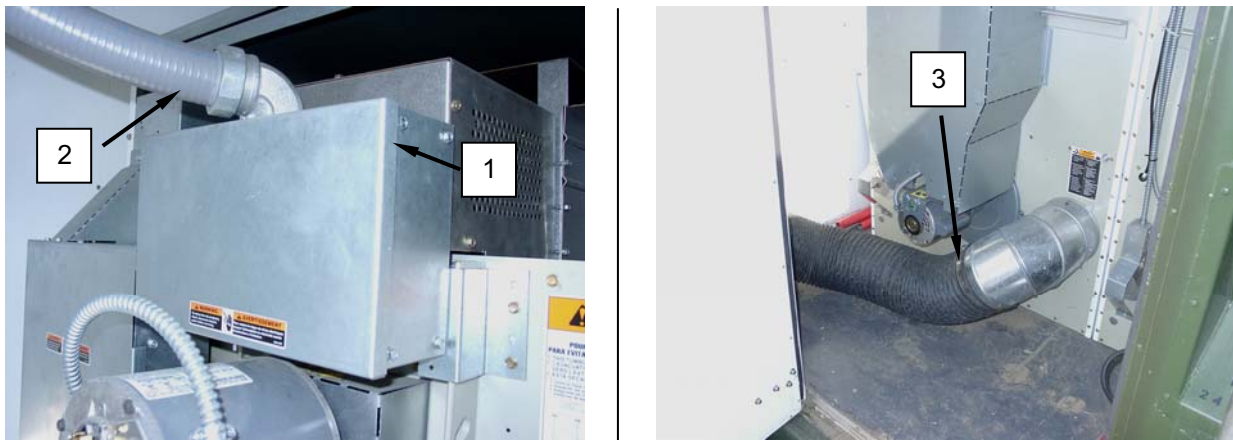

Figure 1. Replace the Dryer.
15. Remove junction box cover (**Figure 1, Item 1**) on replacement dryer.
16. Knock out conduit access if necessary, install conduit (**Figure 1, Item 2**), and retain with conduit locknut.
18. Install junction box cover (**Figure 1, Item 1**) and retain with screws.
19. Install duct (**Figure 1, Item 3**) onto replacement dryer exhaust and secure with hose clamp.